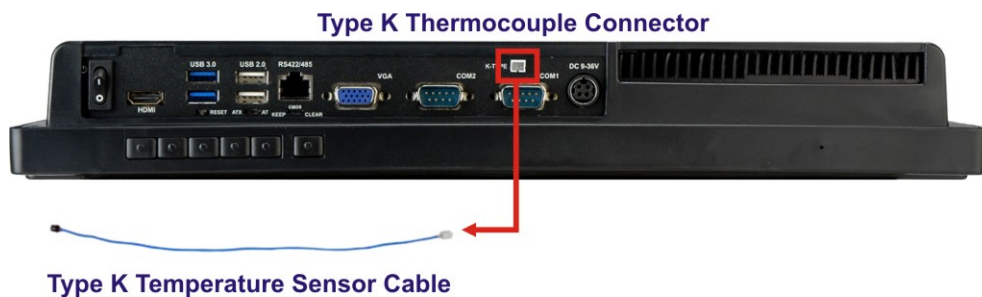

Figure 3-30: Type K Temperature Sensor Installation
Step 1: Locate the type K connector on the bottom panel. See Figure 3-30.